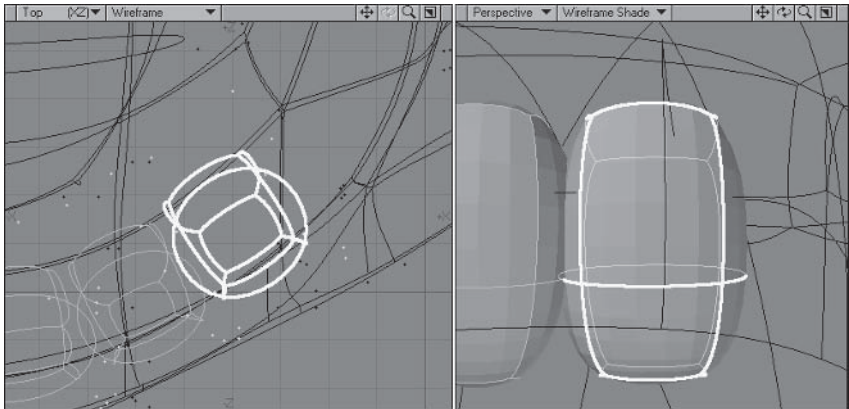

Figure 5.3-114. Position and shape the third tooth.
- 6. **Copy** and **Paste** again, moving the new tooth next to the last one and **Rotate** it in line with the gum. Adjust the points to match Figure 5.3-114.